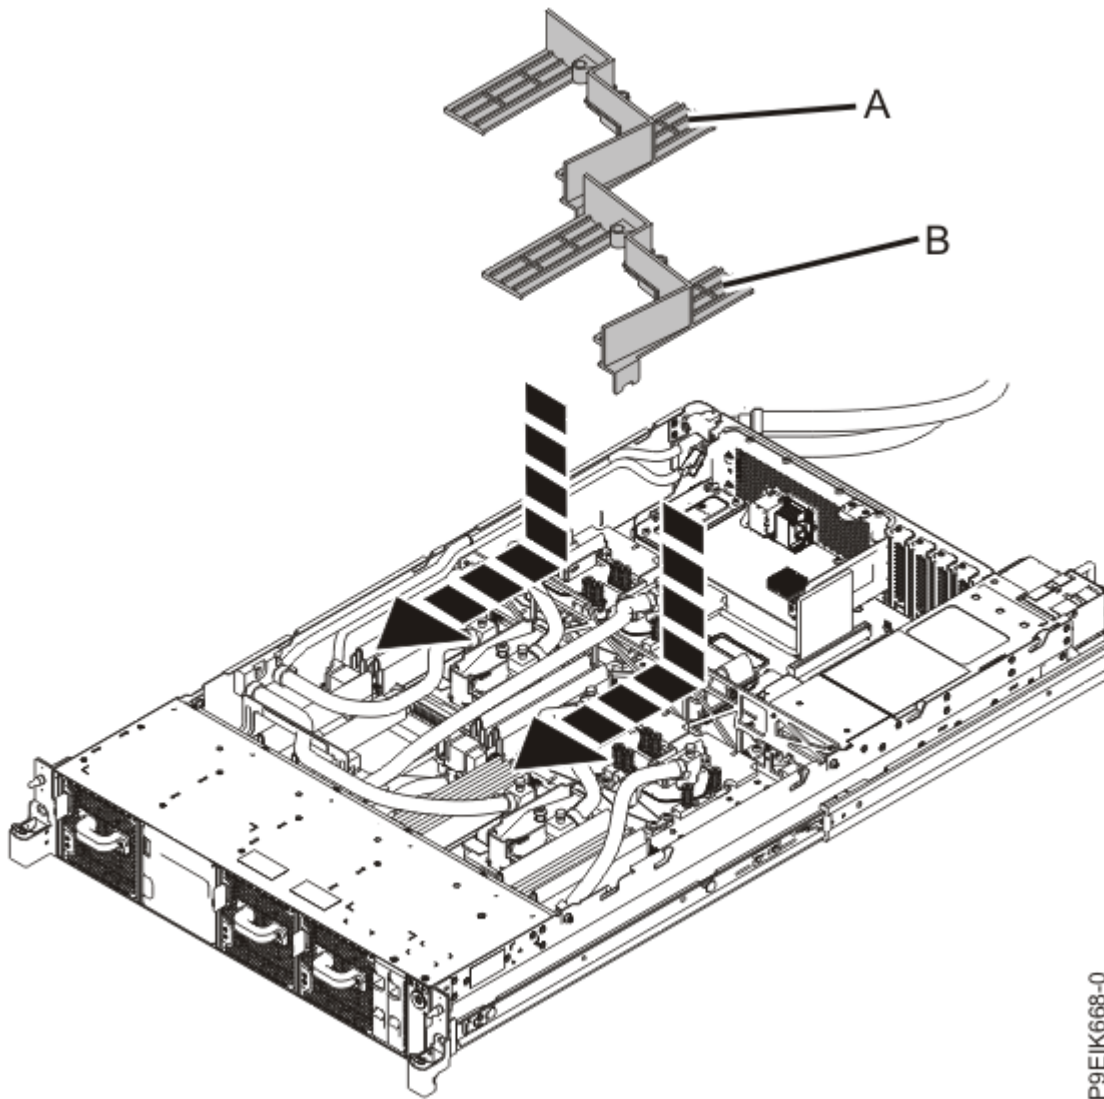

Figure 12. Replacing the memory air baffles
9. Replace the air baffles **(A)** and **(B)** as shown in Figure 12 on page 19.